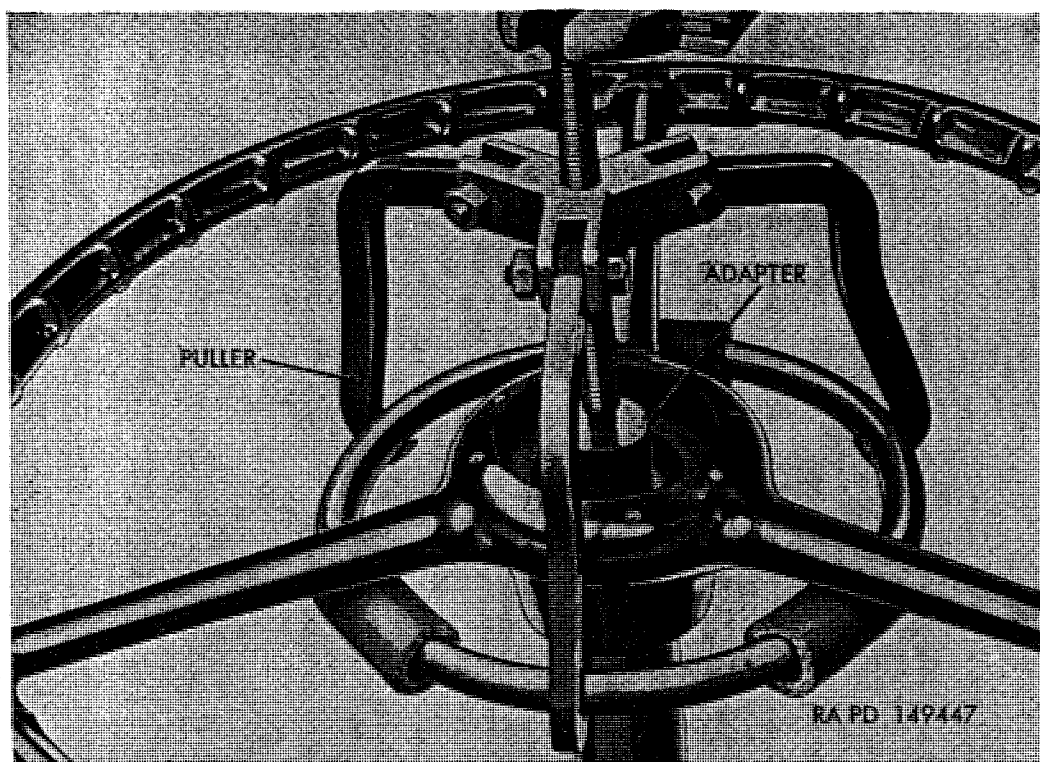

Figure 281. Removing steering wheel, using adapter A7950054 with puller.
(fig. 281)
- (1) Remove horn button and contact from steering wheel (par. 185d).
- (2) Remove steering wheel nut.
- (3) Install adapter A7950054 (fig. 281) with a suitable puller at steering wheel. Pull steering wheel from shaft.
- (4) Remove shaft bearing spring and shaft bearing spring seat from steering shaft.